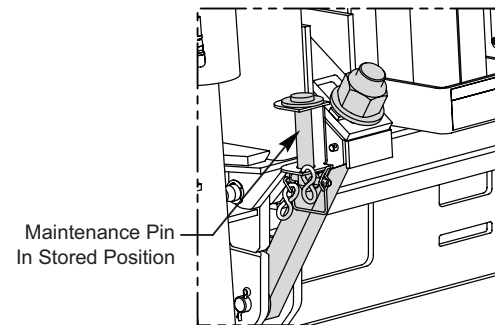

FIGURE 2 - INSTALL MAINTENANCE STRUT
- Engage the Maintenance Pin. See Figure 2.